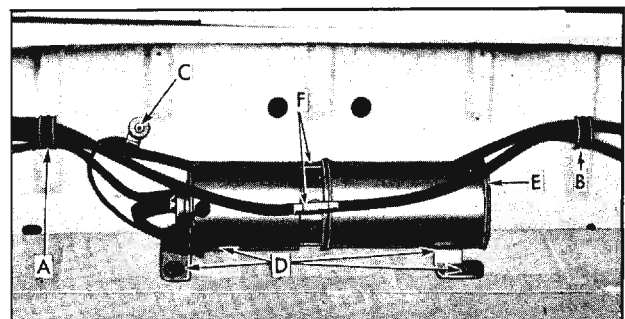

Fig. 16-140 Hydro-Lectric Motor and Pump Assembly
The high pressure hydro-lectric unit consists of a 12 volt reversible type motor, a rotor-type pump, two hydraulic lift cylinders, and an upper and lower hydraulic hose assembly. The unit is installed in the body directly behind rear seat back. (Fig. 16-140)
6. Remove clips securing wire harness and hydraulic hose to rear seat back panel. (View "A" and "B", Fig. 16-140)
7. Disconnect motor leads from wire harness and ground attaching screw. (View "C" Fig. 16-140)
8. To facilitate removal, apply a rubber lubricant to pump attaching grommets; then carefully disengage grommets from floor pan. (View "D", Fig. 16-140)
10. With a straight-bladed screwdriver, vent reservoir by removing filler plug; then re-install plug. (View "E", Fig. 16-140)
11. Disconnect hydraulic lines and cap open fittings to prevent leakage of fluid. (View "F", Fig. 16-140) Use a cloth to absorb any leaking fluid, then remove unit from rear compartment.
1. Check connection of motor ground wire to body metal. (View "C" Fig. 16-140)